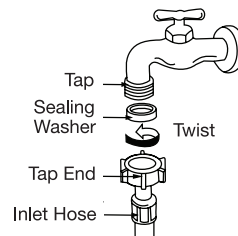

Fig. 5
- Tighten the coupling nuts securely by hand, as illustrated on the right (Fig. 5).